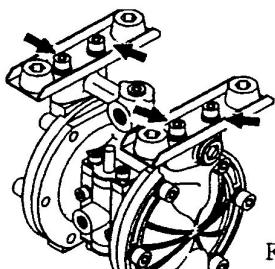

Fig.4.3
- Turn over the main body assembly. [Fig. 4.3]